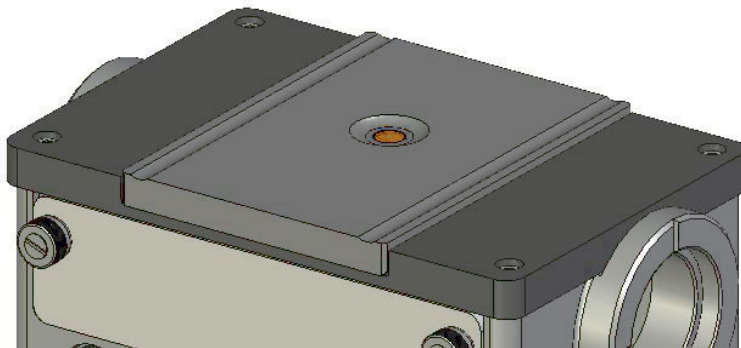

Figure 15. Silver Gate™ ATR Accessory – Optical Unit and Recessed ZnSe ATR Top Plate Assembly without Bridge and Clamp Anvil Assembly
For analyzing a liquid sample it is best to use a recessed ATR crystal top plate assembly on a Silver Gate™ ATR optical unit. It is not necessary to have a bridge and clamp anvil assembly (15) fitted when sampling liquids as generally they will make good, close contact with the ATR crystal and do not require any external force from an anvil. (See Figure 15.)